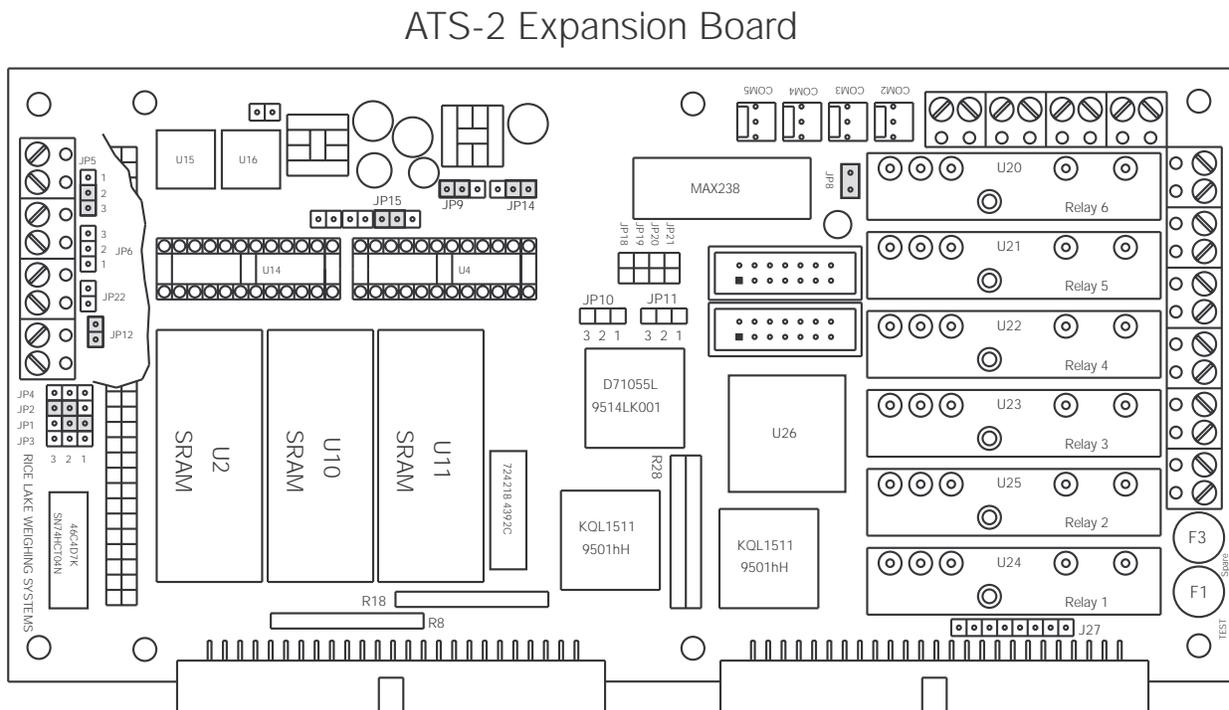

Figure 6-2. ATS-2 Expansion Board Diagram
5. Using the old board (and/or drawing ATS-2 Figure 6-2) as a guide, set the appropriate jumpers.